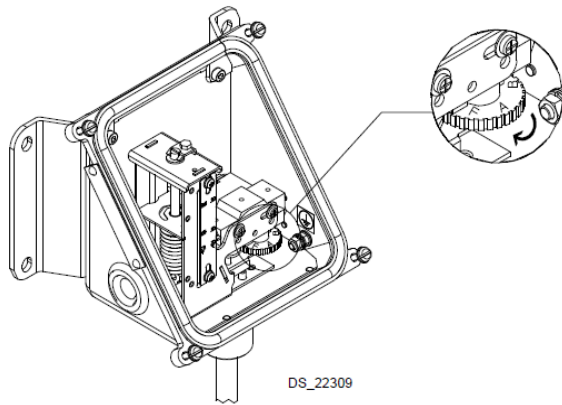

Fig. 5 - Adjustment wheel
1. Rotate the adjustment wheel in the sense shown in **Fig. 5** placing letter A on the mark if not.
5. Rotate the adjustment wheel in the sense shown in **Fig. 5** placing letter B on the mark.